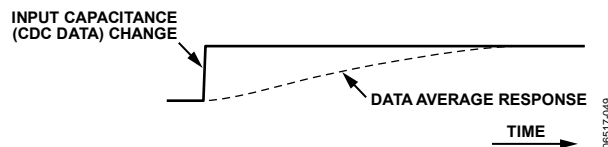

Figure 41. Data Average Response to Data Step Change
| 3 2 1 0 | ThrSettling | <p>Determines the settling time constant of the data average and thus the settling time of the adaptive thresholds. The response of the average to an input capacitance step change (that is, response to the change in the CDC output data) is an exponential settling curve characterized by the following equation:</p> $Average(N) = Average(0) + Change(1 - e^{-N / TimeConst})$ <p>where: Average(N) is the value of average N complete CDC conversion cycles after a step change on the input. Average(0) is the value before the step change. TimeConst can be selected in the range between 2 and 65,536 conversion cycle multiples, in steps of power of 2, by programming the ThrSettling bits.</p> $TimeConst = 2^{(ThrSettling + 1)}$ <p>See Figure 41.</p> | | | | | | | | | | | | | | | | | | | | |